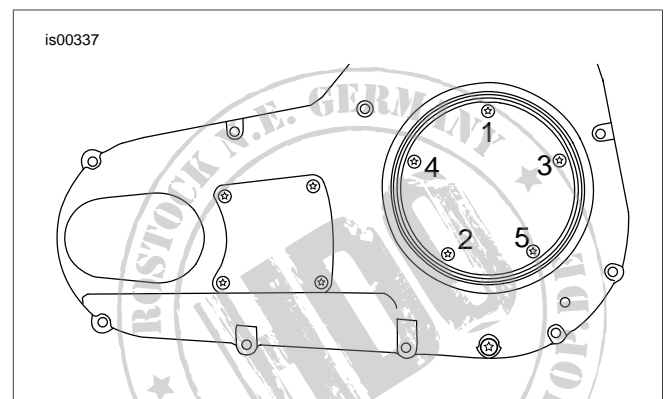

Figure 1. Torque Sequence, Clutch Inspection Cover
5. Install gasket (part number 25416-99C) and derby cover (1) on primary chaincase cover using screws and washers from the kit. Tighten screws to 84-108 **in-lbs** (10-12 Nm) in the sequence shown in Figure 1.